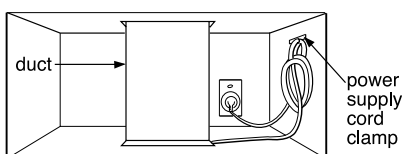

Figure 35
6. Use the power supply cord clamp to bundle the power supply cord. Install the power supply cord clamp, using a screw as shown in Figure 35, to the inside of the cabinet.